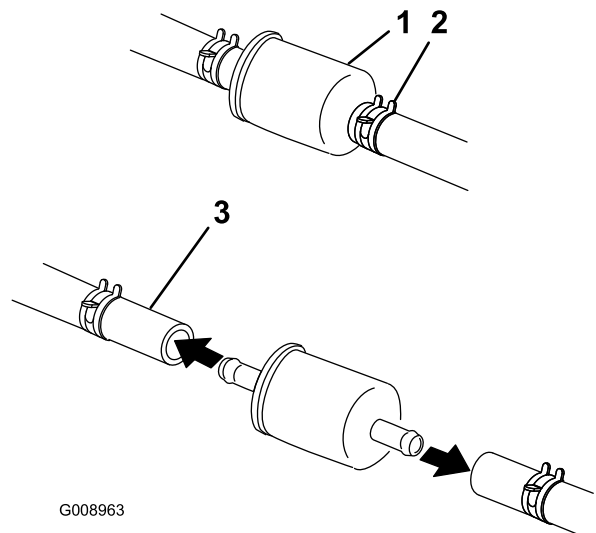

Figure 41
4. Squeeze the ends of the hose clamps together and slide them away from the filter (Figure 41).